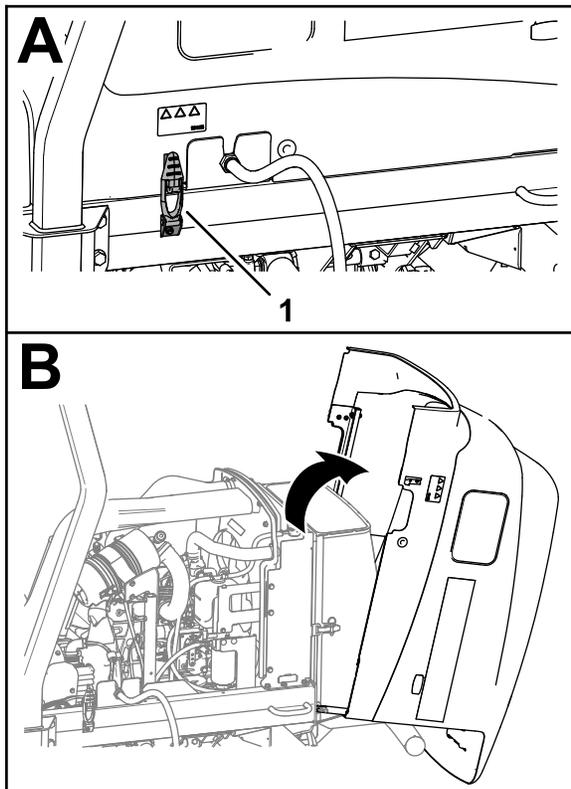

Figure 59
1. Release the 2 hood latches (Figure 59).